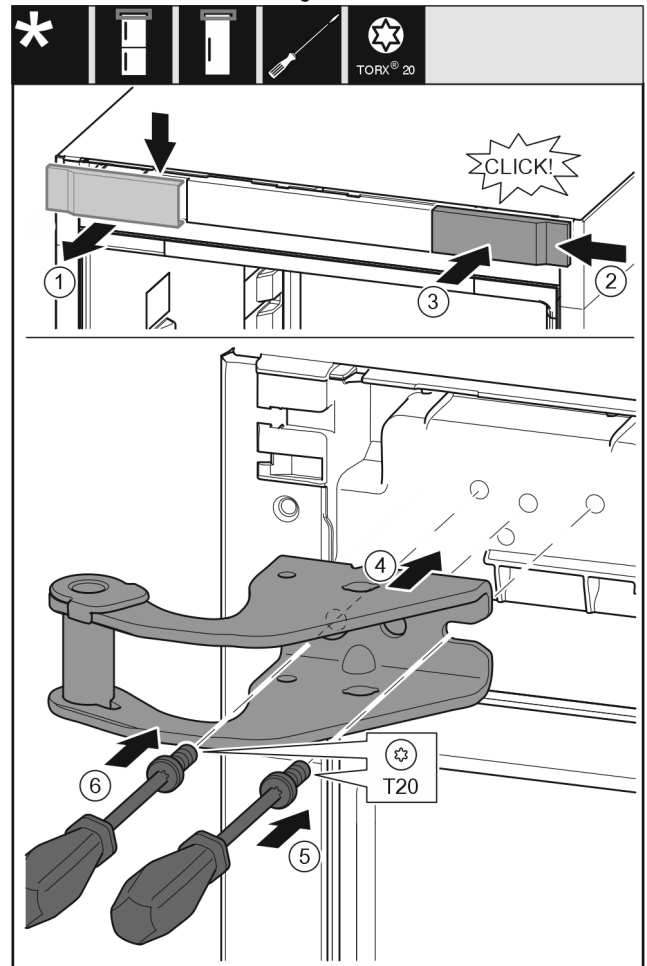

Fig. 9
- ▶ Take off the cover to the front from above. Fig. 9 (1)
- ▶ Rotate the cover 180° and clip onto the other side from the right. Fig. 9 (2)
- ▶ Latch the cover into place. Fig. 9 (3)
- ▶ Position the upper bearing bracket. Fig. 9 (4)
- ▶ Insert the screw with a T20 screwdriver and tighten it. Fig. 9 (5)
- ▶ Insert the screw with a T20 screwdriver and tighten it. Fig. 9 (6)